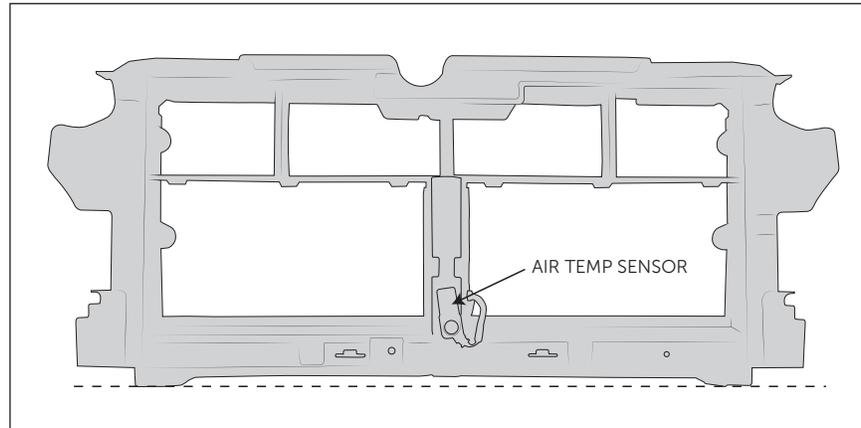

Figure 1
1. Cut off the lower portion of the Factory Grill Support as shown (fig. 1).